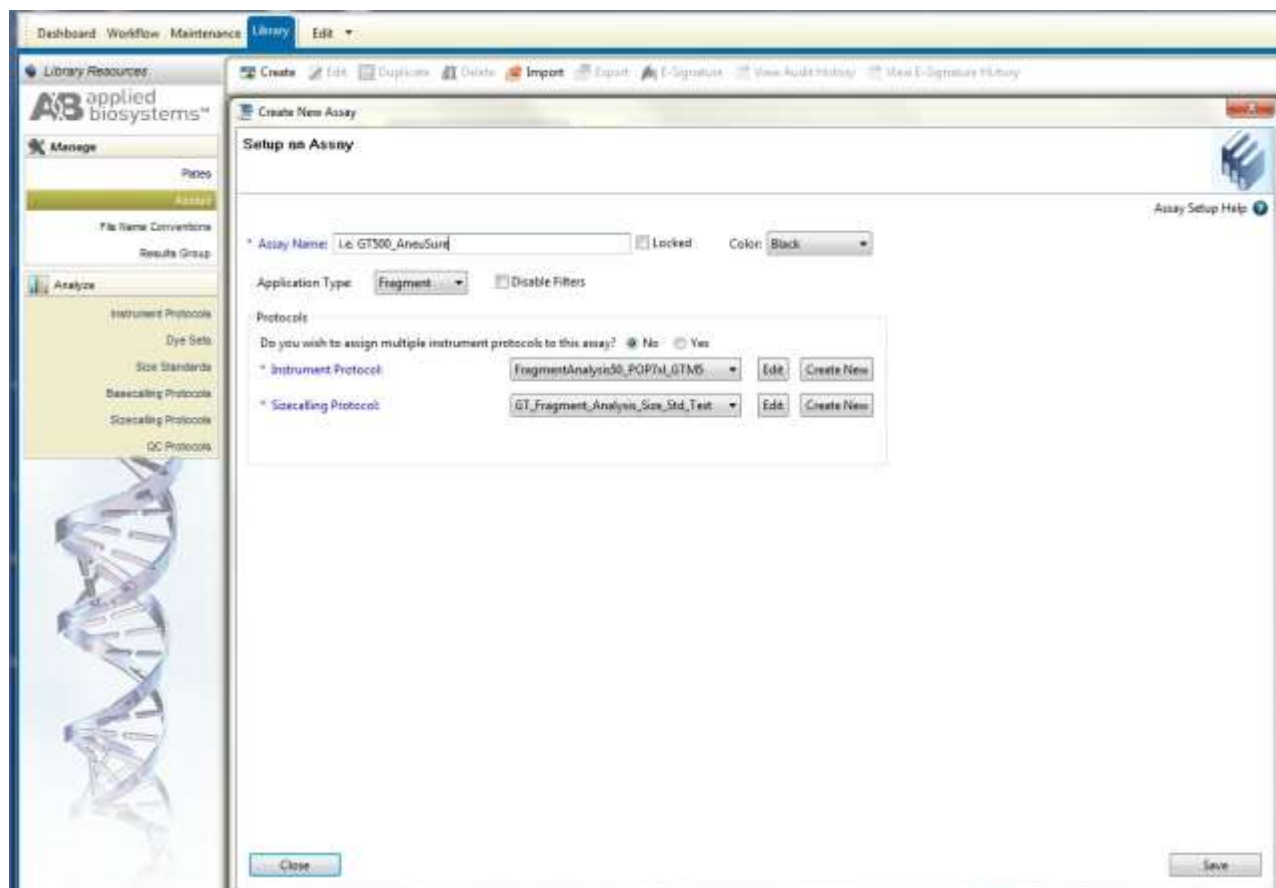

Figure 8. Screenshot for the “Create New Assay” window on Applied Biosystems 3500 Data Collection software.
- c) Select “Create” (Figure 8).
- d) In the *Create New Assay window*, as shown in Figure 8, choose the *Instrument Protocol* created in Step 3.1.1 and the *QC Protocol* created in Step 3.1.3.